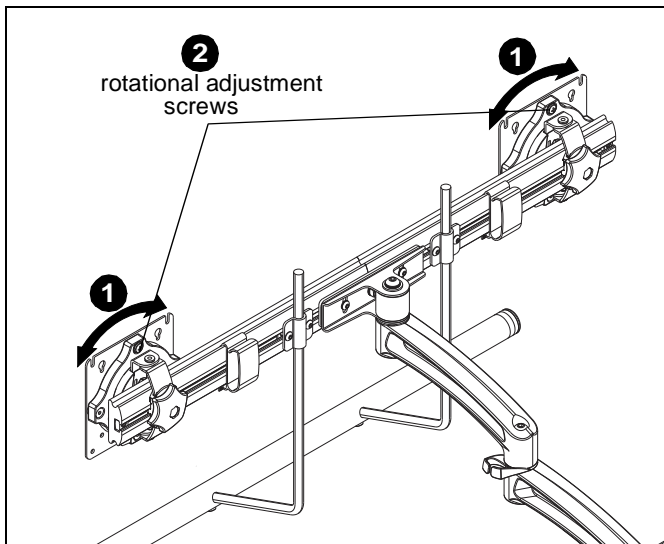

Figure 20
1. The monitor may be adjusted 90 degrees in either direction in order to provide a portrait view of the monitor. (See Figure 20)
2. Use Phillips screwdriver to adjust rotational adjustment screw to adjust rotational tension. (See Figure 20)